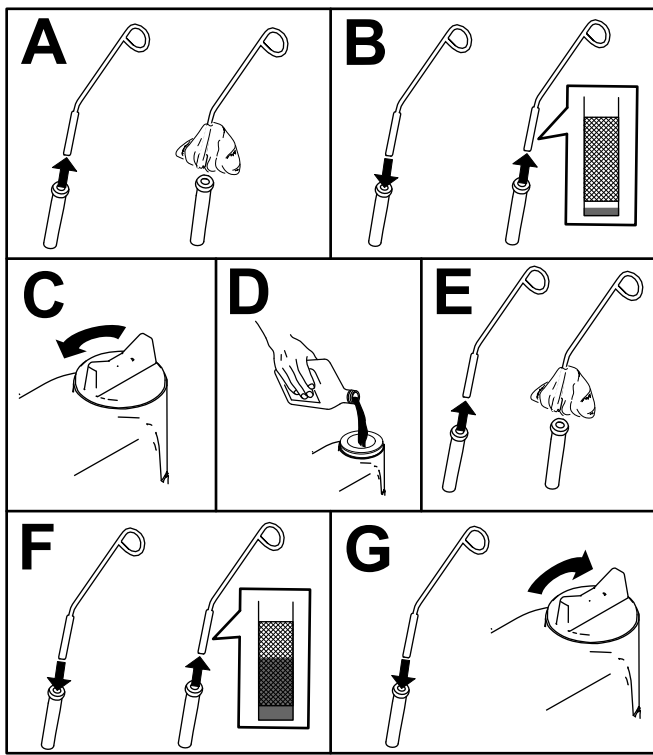

Figure 51
5. Check the oil and add additional oil as needed (Figure 51).